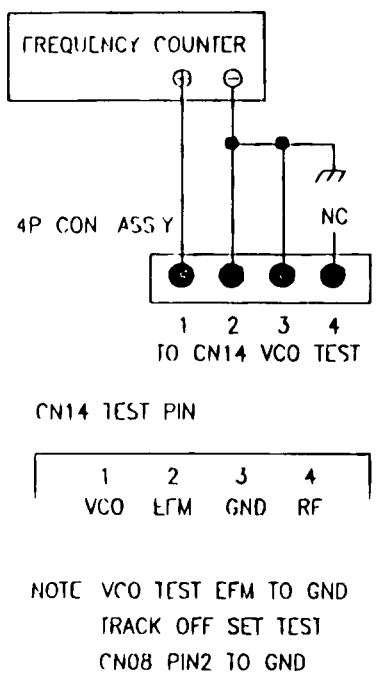

Figure 10
- c. VCO test pin to CN14, and adjust VR05 for a counter reading of 4.35MHz +/- 20kHz. (See Fig. 10)